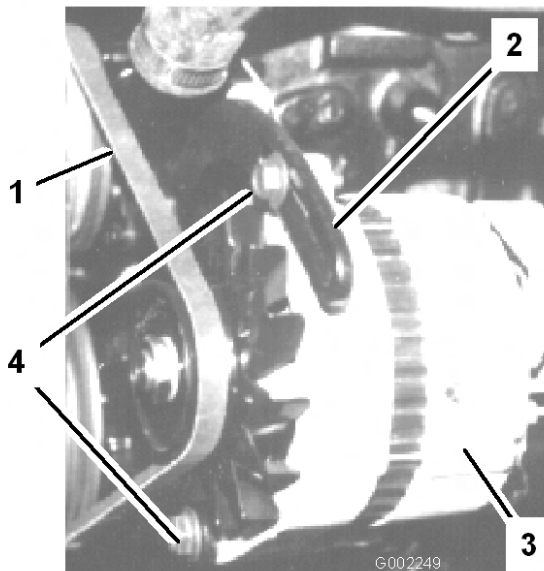

Figure 56
3. Loosen the bolts that secure the brace to the engine and the bolt that secures the alternator to the brace (Figure 56).